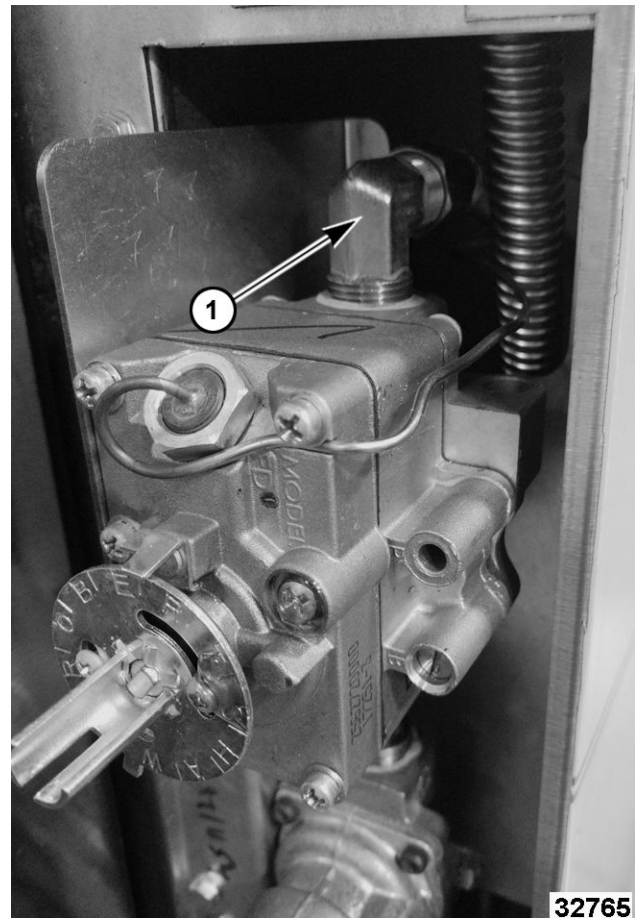

Fig. 22
5. Disconnect flex line (1, Fig. 22) from top of temperature control.